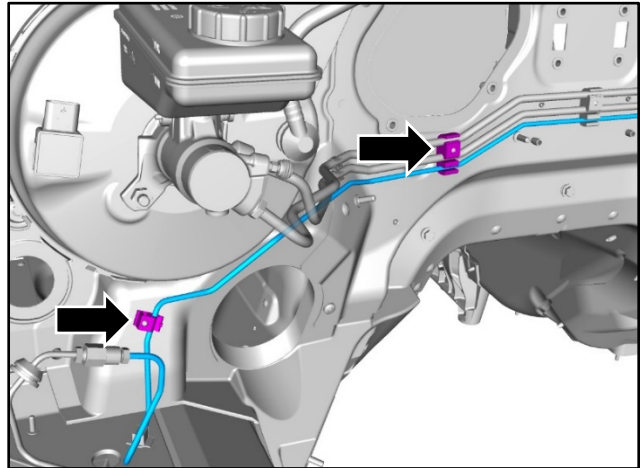

Figure 13
4. Make sure that the brake lines are installed correctly (refer to Figure 13).